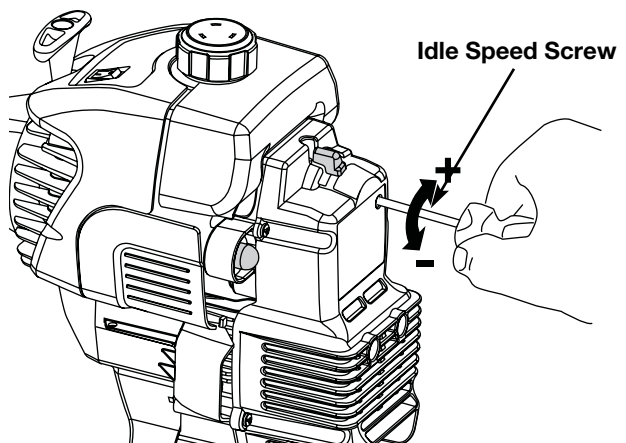

Fig. 29
The idle speed of the engine is adjustable through the air filter/muffler cover (Fig. 29).
2. Release the throttle trigger and let the engine idle. If the engine stops, insert a small phillips screwdriver into the hole in the air filter/muffler cover (Fig. 29). Turn the idle speed screw in, **clockwise**, 1/8 of a turn at a time (as needed) until the engine idles smoothly.